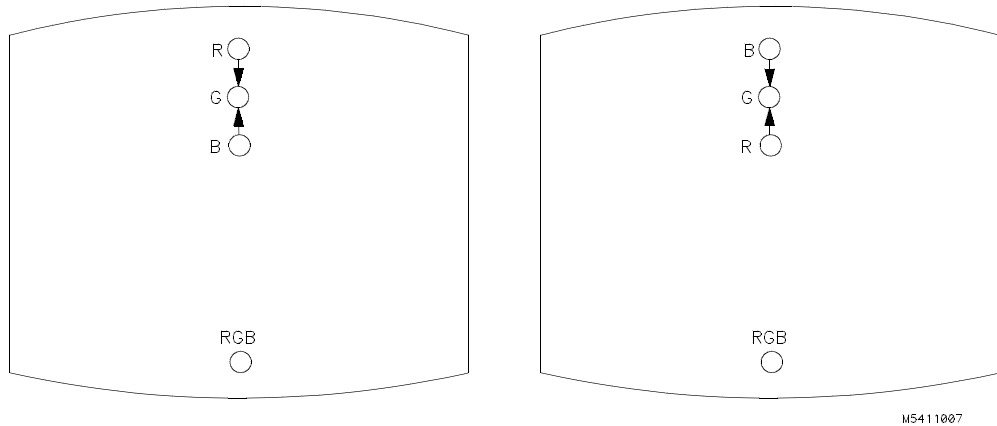

Figure 4-21. V.STAT TOP Adjustment
4. Adjust the V.STAT TOP (RV801) and the V.STAT BOTTOM (RV802), located on the bottom PC board. These two adjustments allow you to obtain coincidence of red, blue, and green where the top and bottom horizontal lines intersect with the center vertical line. See figures 4-21 and 4-22.